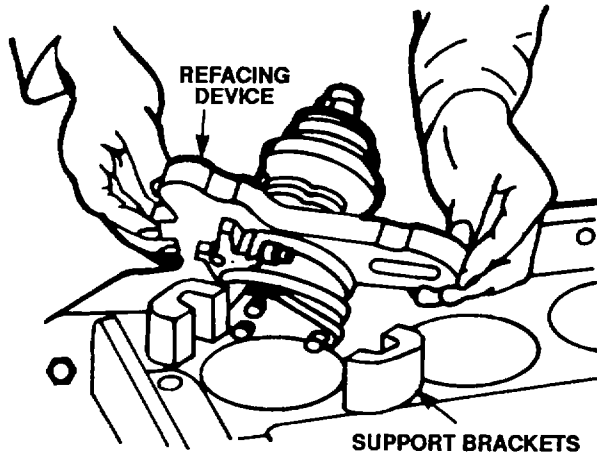

Figure 5-64. Mounting Refacing Device 003-0505
1. Clean the seating area and remove paint residues. Place supporting brackets in position (figure 5-64).
2. Mount refacing device No. 003-0505 and retaining bolts to such an extent that the refacing device is still movable (figure 5-64).